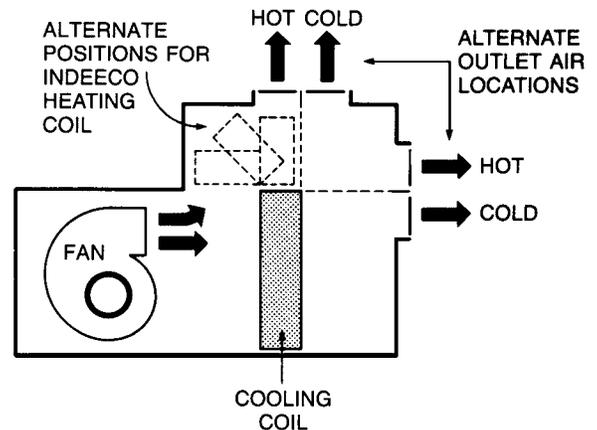

Figure 51.
**Multi-Zone or Dual Duct Heaters** – These heaters are designed for installation inside multi-zone or dual duct air conditioning equipment, where the airflow is highly variable and unevenly distributed (Figure 51). These heaters use coils derated to approximately 25 watts per square inch (3.8 watts per square cm) of wire surface area (approximately one half normal watt density). Low density coils run cooler, and thus, provide longer life under these stringent operating conditions.